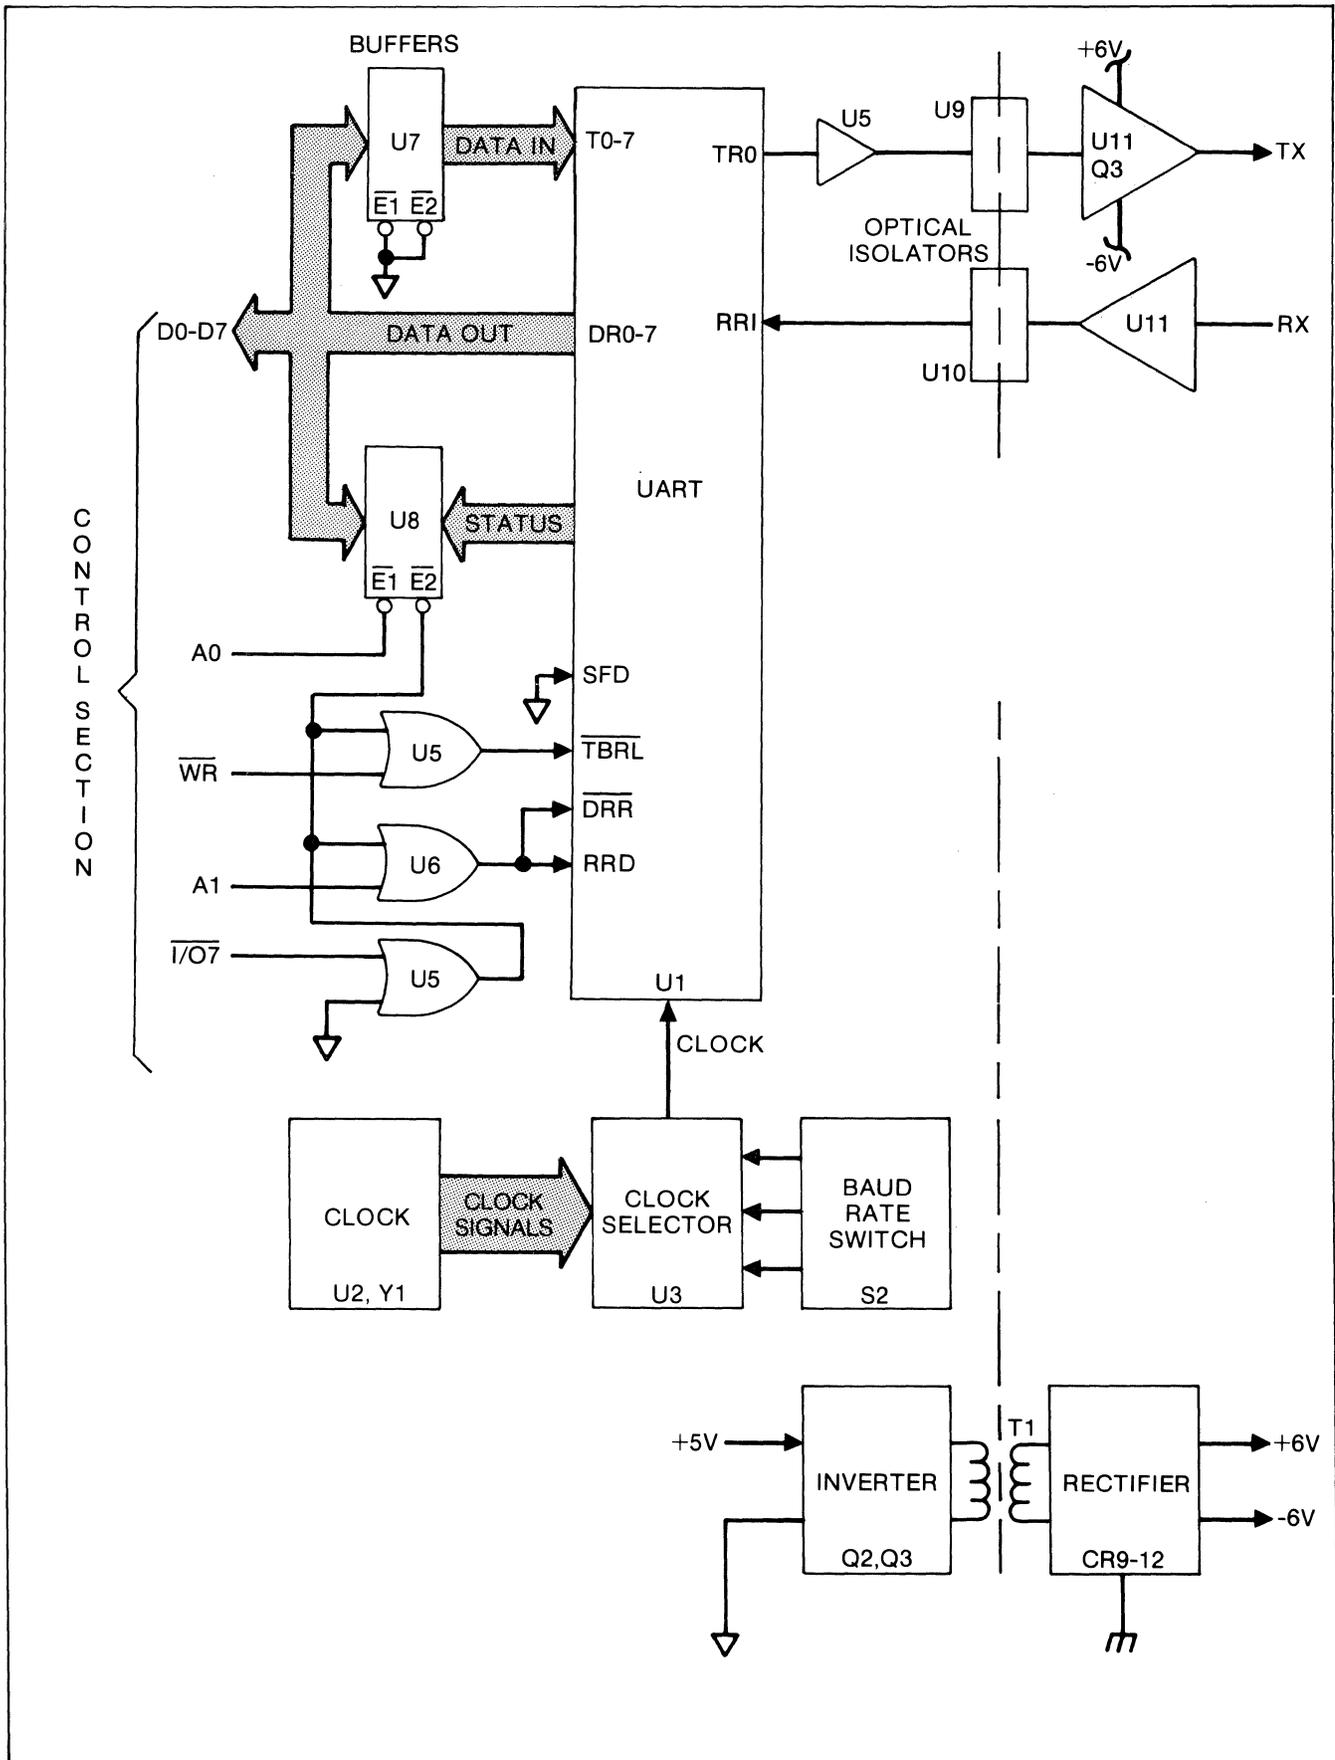

Figure 001-1. RS-232 Interface
001-5. The RS-232 Interface (Option -001) provides a standard communications interface port. The interface contains a UART (universal asynchronous receiver/transmitter) which performs the necessary parallel-to-serial and serial-to-parallel data conversion, and inserts stop bits and parity coding. Figure 001-1 shows that the data input lines (T0-T7) are connected via tri-state buffer U7 to the data bus. This buffer is constantly enabled. The status output lines: parity error (PE); framing error (FE); overrun error (DE); data received (DR); transmit buffer empty (TBE); and transmit register empty (TRE) are all buffered to the data bus via tri-state buffer U8. In addition to the six status lines, U8 always sends the upper bit (b7) low and the next bit (b6) high when a read status is performed. These two bits are used by the main microprocessor to detect the presence of the option card. The data output lines, and the status output lines of the UART, U1, are all connected to the microprocessor data bus, D0 - D7.